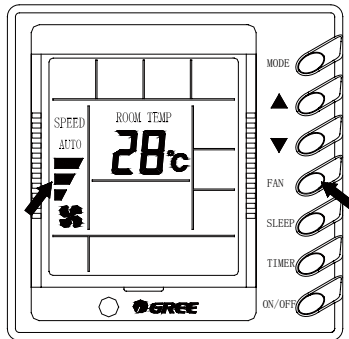

Fig.16
6.4 Fan Speed Control (Fig.16)